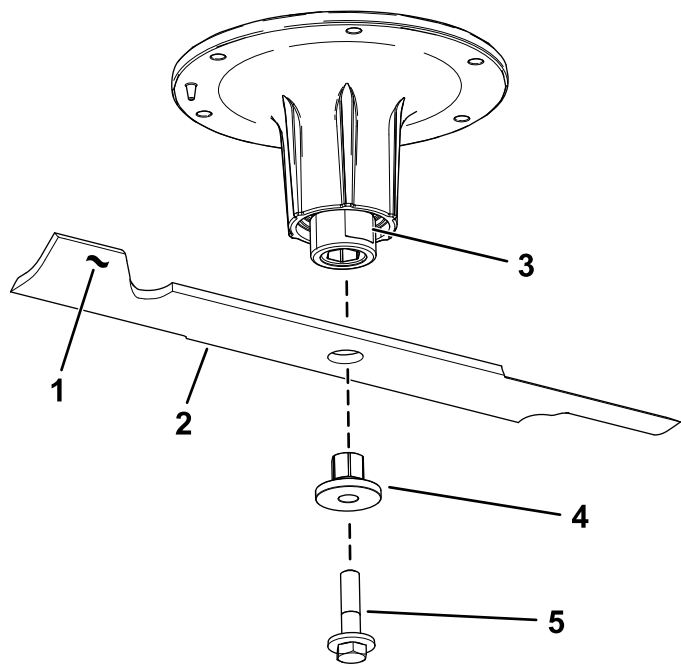

Figure 78
2. Remove the blade bolt, bushing, and blade from the spindle shaft (Figure 78).